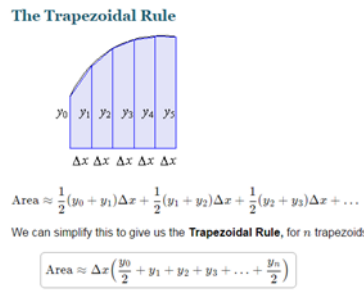

Figure 10 Trapezoidal Rule
- ii Evaluate total area below 0 volt by using Trapezoidal Method Area Calculation (refer to Figure 10)